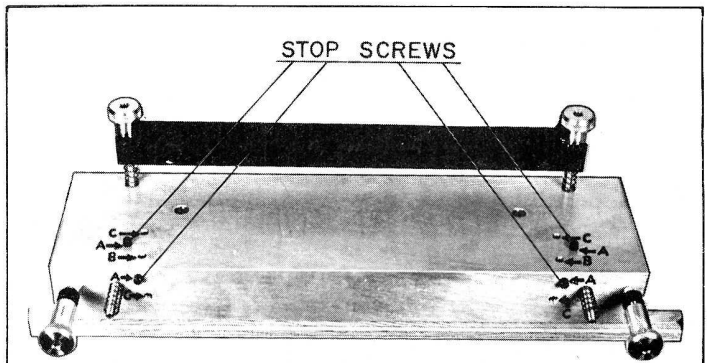

Fig. 6
Insert four (4) stop screws into threaded holes (A) into top and front of dovetail base and tighten screws firmly (See Fig. 6).